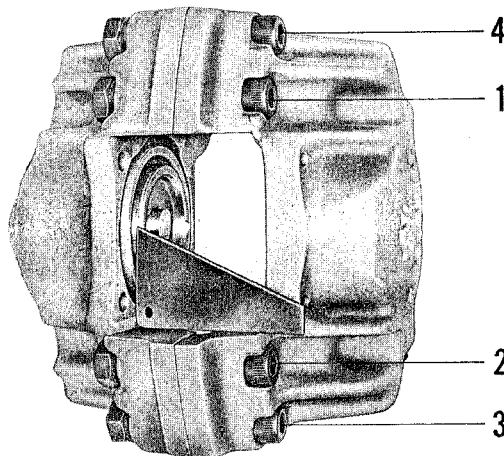

Fig. 48
8. Tighten the bolts in two stages (in first stage, apply 50% of the specified torque, in second stage 100%) and in the sequence shown in Fig. 48.